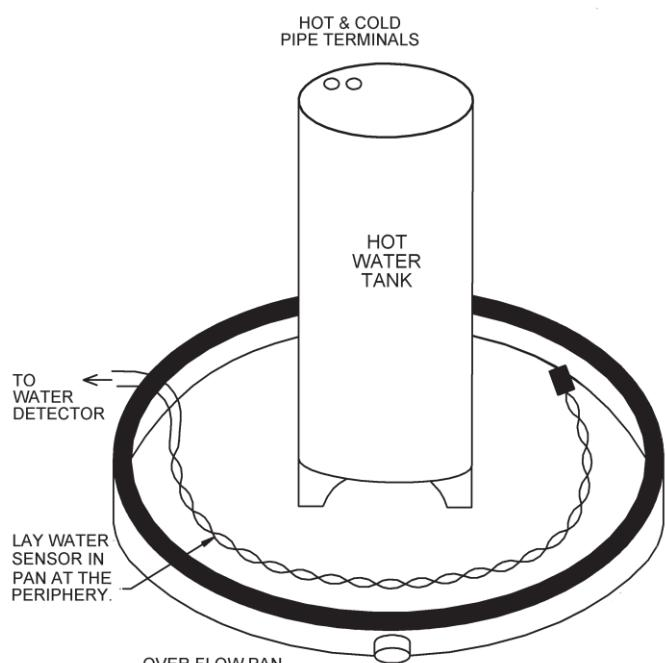

Figure 10: Hot Water Tank Pan Mounting
- Alternatively, a rope water sensor can be laid on the floor or under pipes as shown in Figures 10, 11, 12 & 13. Cable clamps can be used to secure the sensor to the floor.